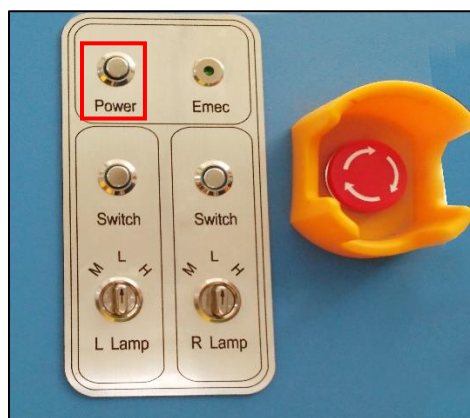

Fig 14: Pressing the Power Button
Step 13: Switch ON both UV lamps one by one (Refer to Fig 14). First, switch ON the left UV lamp and after five seconds, switch ON the right UV lamp.
Step 14: Set temperature of both UV lamps to **Low** and wait for ten minutes to attain the required temperature. After waiting, set the temperature of both UV lamps to **Medium** (Refer to Fig 14).